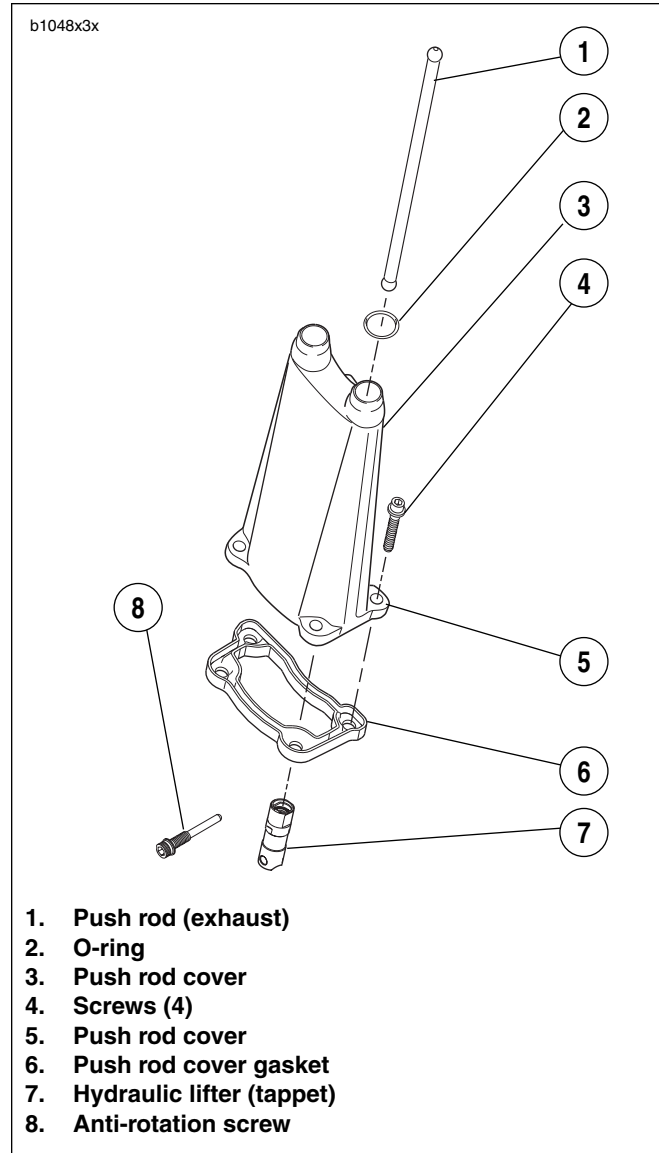

Figure 3-127. Valve Lifter Service
- See Figure 3-127. Remove push rod covers.
3. See Figure 3-127. Insert lifter into bore in crankcase. Rotate lifter so that flats at upper end of lifter face the front and rear of the engine. If the lifter is installed incorrectly, anti-rotation screws cannot be inserted.
5. See Figure 3-127. Install push rod cover.